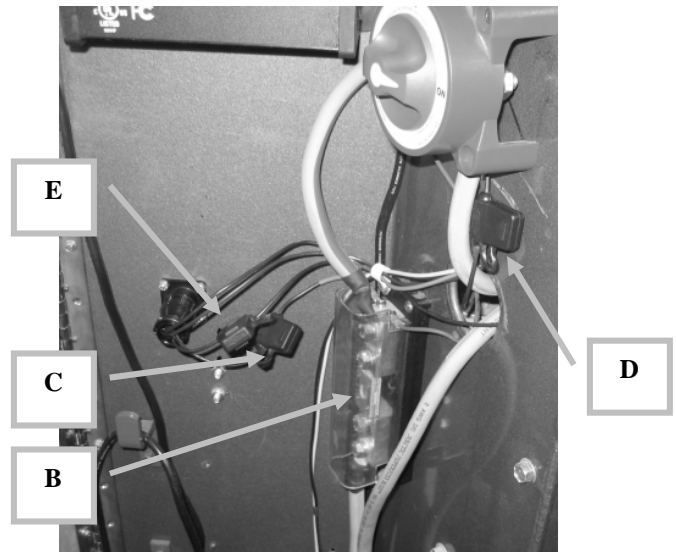

Figure 10
- B. DC Power Unit motor is protected by a 300 Amp ANL type fuse located inside Left Cover mounted to a block with clear Plexiglas cover (See **Figure 10, Item B**).
- C. Down Stop Assembly circuit is protected by a 15 Amp blade type which is located to the left of the fuse block (See **Figure 10, Item C**). It will have a red colored lead wire.
- D. Control Box is protected by a 7.5 Amp blade type in-line fuse which is located just under the Main On/Off switch (See **Figure 10, Item D**).
- E. Down Stop Limit Switch signal to Control Box is protected by a 3 Amp in-line fuse which is located to the left of the fuse block (See **Figure 10, Item E**).